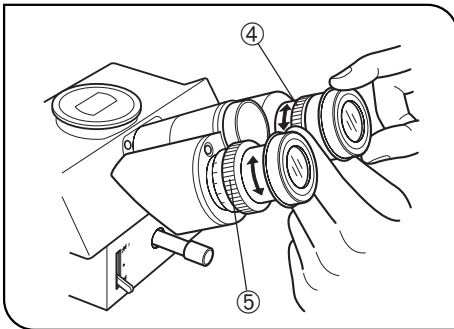

Fig. 2
2. Turn the helicoid ④ of the right eyepiece to focus on the pointer.
3. Turn the helicoid ⑤ of the left eyepiece sleeve to focus on the pointer. (Fig. 2)